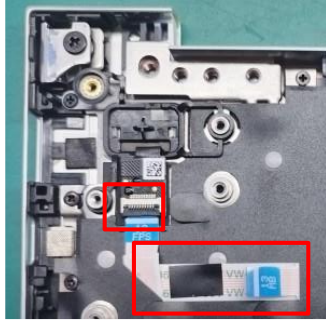

Figure 1
1. Tear off the adhesive on the FFC and remove the FP/Power key from part C (Figure 1).